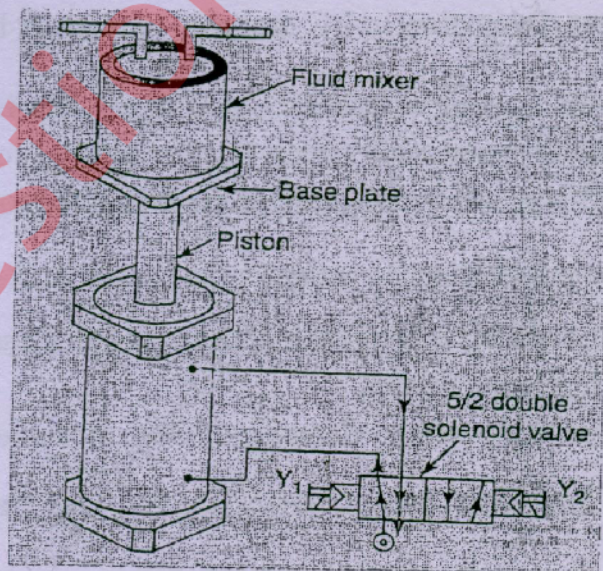

Figure 1
- Q.6 (a) Explain impedance matching for a part of electromechanical system that consists of transmission of power using motor-gear drive system. (8)
- (b) A fluid mixer is used to mix two fluids with a vibrating machine, as per the machine sketch shown in Figure 1. The vibration machine is operated by a double acting pneumatic cylinder. The double acting cylinder is extended initially and when a pushbutton is pressed, the mixer mounted on a vibrating table moves down completely by retracting the cylinder and then executes an up and down motion between the retracted position and the center position of the cylinder. The vibrating time is adjusted for 10s; after that the cylinder is switched OFF automatically. Three electrical limit switches, one at the center of cylinder position and other two at end positions, are used to control the strokes. Draw PLC ladder diagram to achieve the above sequence of operation. (12)